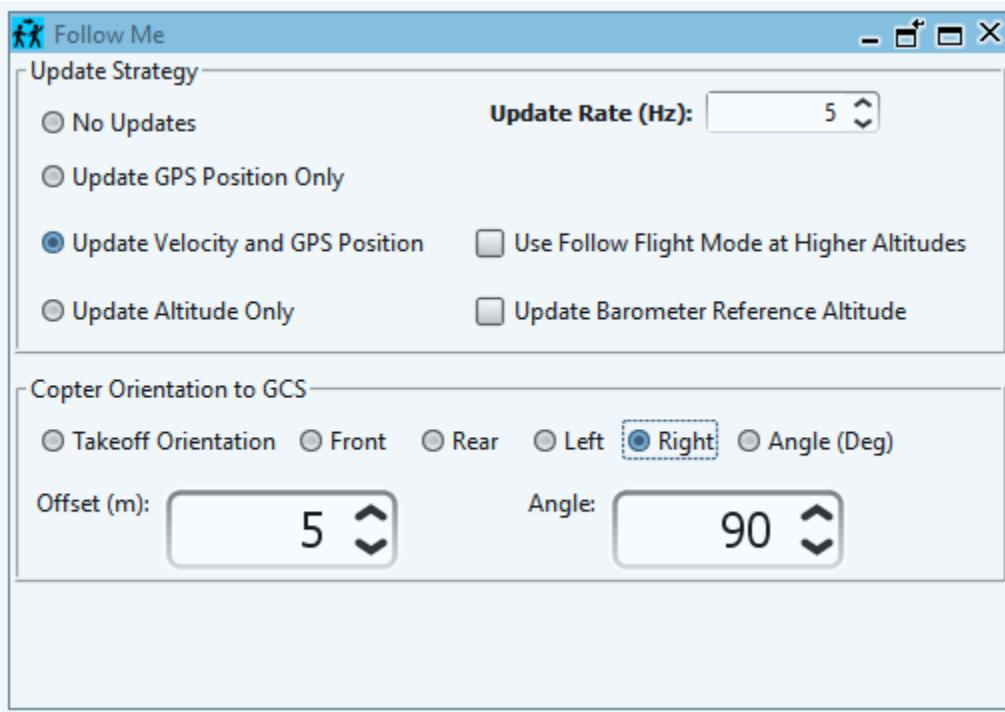

Figure 47 – Follow Me settings panel
- Once the settings are tuned, perform another test with arm, launch, increase altitude and nudge to another position, change the relative orientation and offset using the “Follow Me” panel shown in Figure 47. Click on the RTL to initiate Guided RTL and verify that the copter landed at the original relative orientation to the GCS GPS antenna.